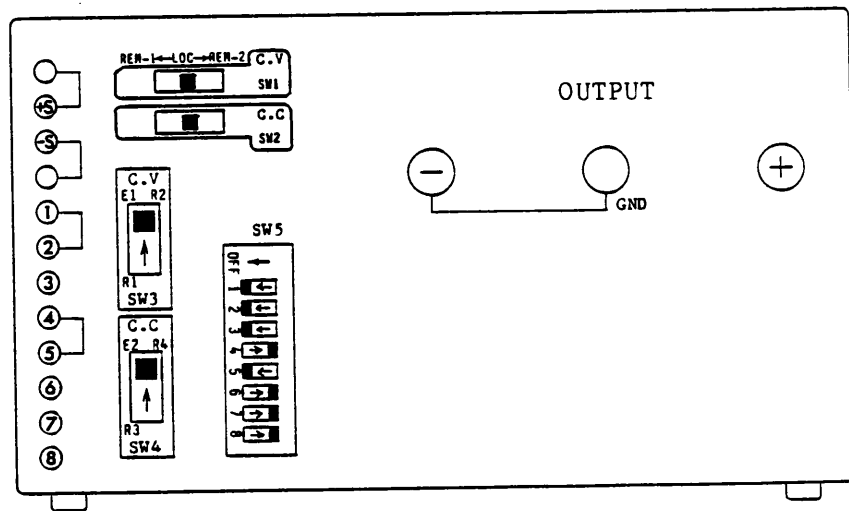

Figure 2-19. Typical Setting of Model Select Switches and Output Terminal Jumpers
1. Confirm the mode switches and terminal jumpers of the rear panel to standard states as shown in Figure 2-19.